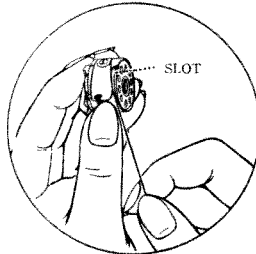
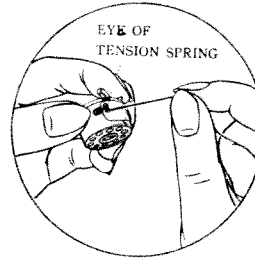

Fig. 6
Fig. 7
2. While holding the bobbin case as before, grasp the thread end with your right hand, guide it into the cross slot (Fig. 6).
3. Then pull it through under the tension spring of the bobbin case (Fig. 6) until it enters the delivery eye (Fig. 7).